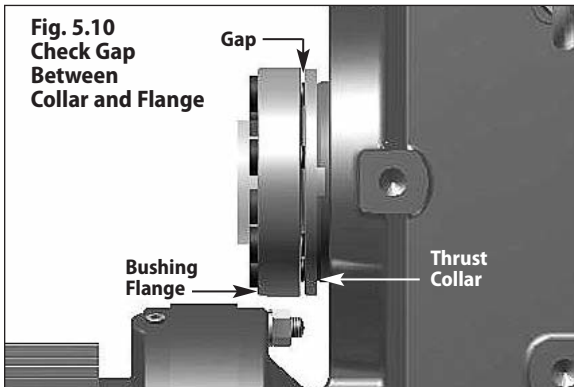

Fig. 5.10 Check Gap Between Collar and Flange
Step 3 – Check the Taper-Grip® Bushing to assure that there is a gap between the thrust collar and the bushing flange. If no gap exists, unit removal may be difficult (see Fig 5.10).